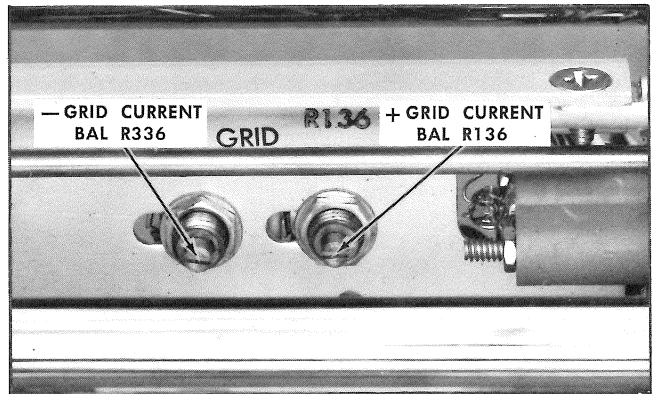

Fig. 5-8. Location of R136 and R336, steps 11 and 12.
- Set the +INPUT switch to DC. The trace should be at the same position as noted in step 11a. If it is not, adjust the +GRID CURRENT BAL R136 (see Fig. 5-8) so the trace is positioned to the same point. To check on the accuracy of the adjustment, set the +INPUT switch to GND and back to DC. There should be no trace shift.
- Set the -INPUT switch to DC. The trace should be at the same position as noted in step 12b. If it is not, adjust the -GRID CURRENT BAL R336 (see Fig. 5-8) to return the trace to its original position. To check on the accuracy of the adjustment, set the -INPUT switch to GND and back again to DC. There should be no trace shift.